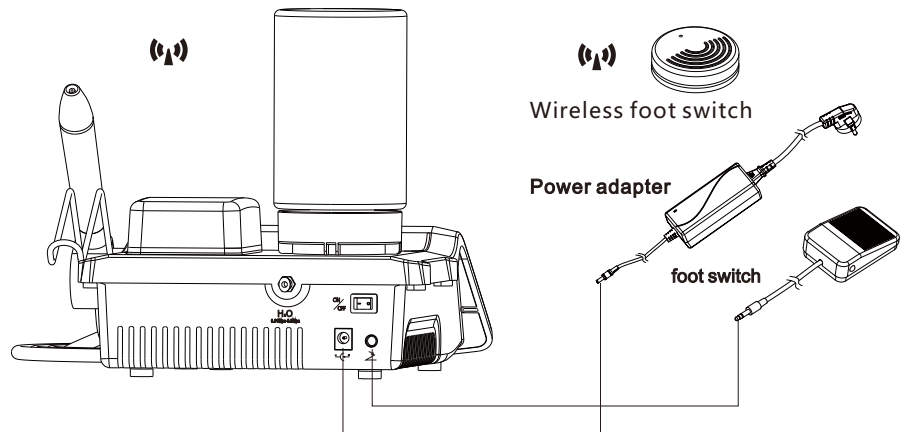

FIGURE 3
- 3) Install the battery for wireless control foot switch, or insert the plug of the cord foot switch into the main unit. (Figure 8, Figure 3)